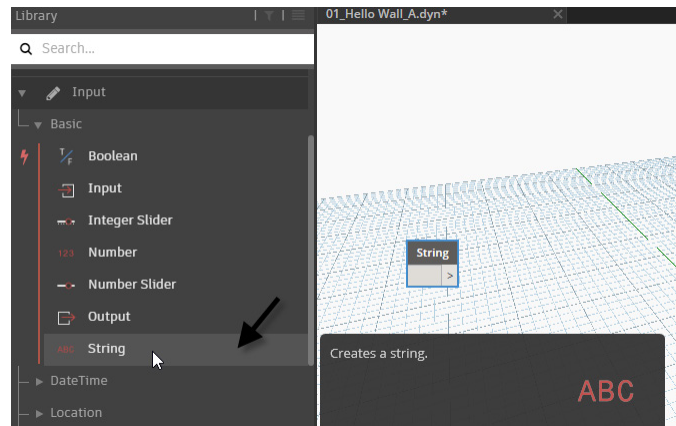

Figure 12
2. Click the ***String*** node to add it to the canvas (see Figure 12).